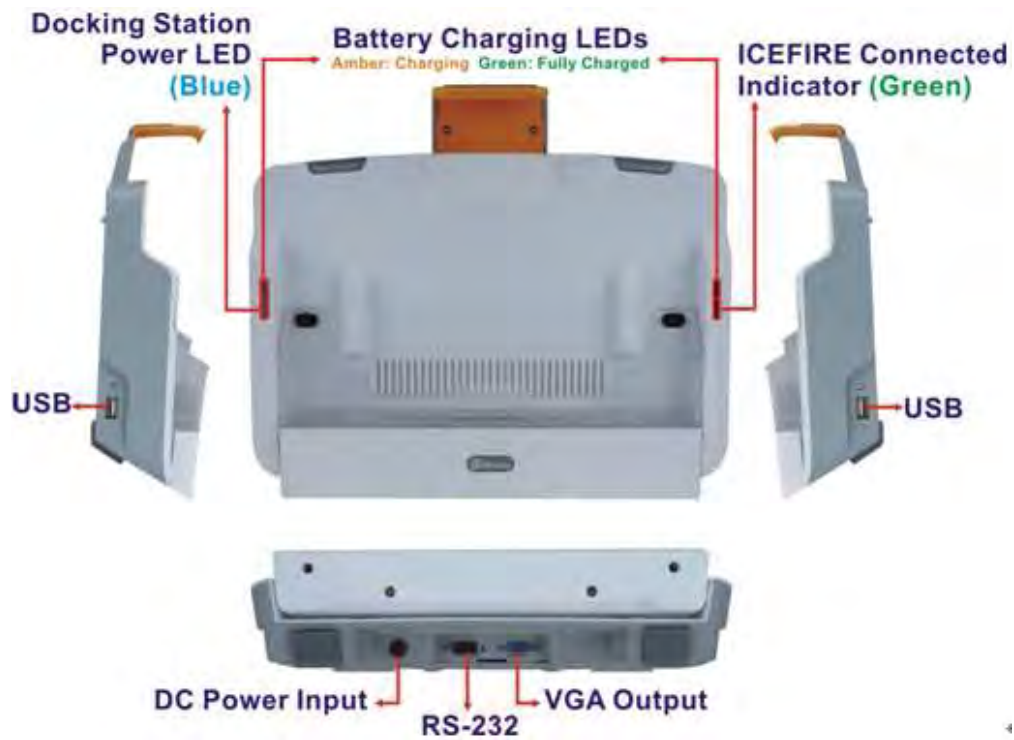

Figure 3-18: Docking Station I/O Connectors
- Step 1:** **Locate the DB-9 connector.** The location of the DB-9 connector is shown in **Figure 3-18**.
- Step 1: Locate the female DB-15 connector.** The location of the female DB-15 connector is shown in **Figure 3-18**.